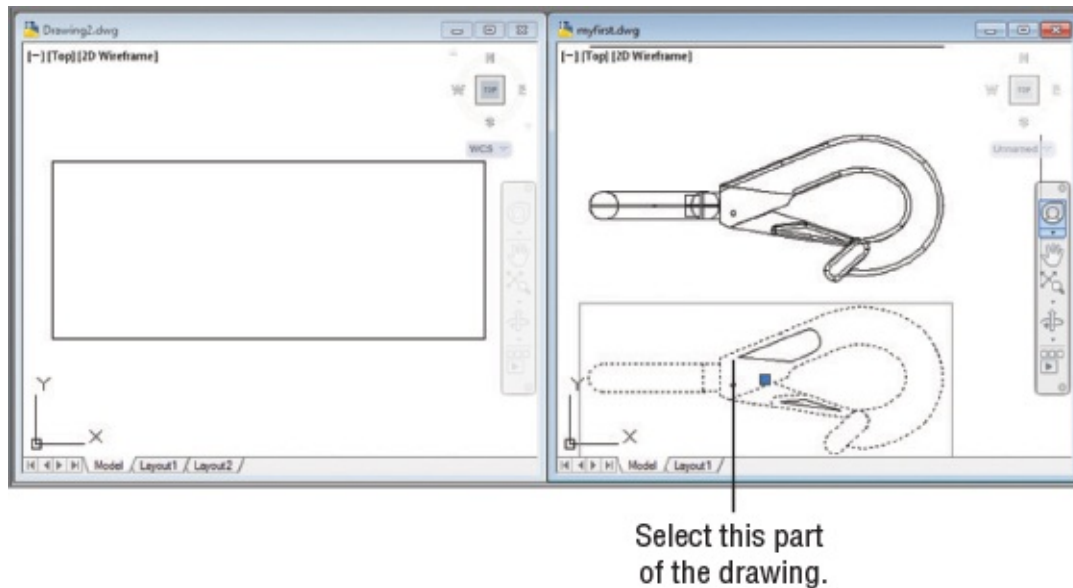

FIGURE 1.29 Grip shown in the 2D drawing
6. Click the 2D version of the clip at the bottom of the drawing to select it. A dot appears at the center of the clip, and a rectangle encloses it. You may find that some parts of the drawing within the rectangle have not been highlighted. If this happens, just click them in addition to the main clip drawing. The dot is called a *grip*; you'll learn more about grips in the next chapter (see Figure 1.29).